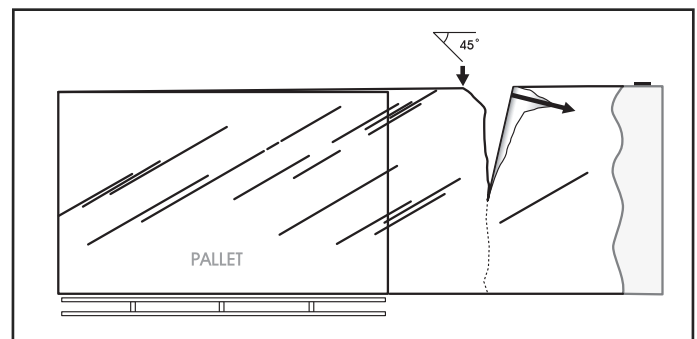

Figure 8
2. Stretch film cuts easily if torn at a 45° degree angle to itself. (See Figure 8)